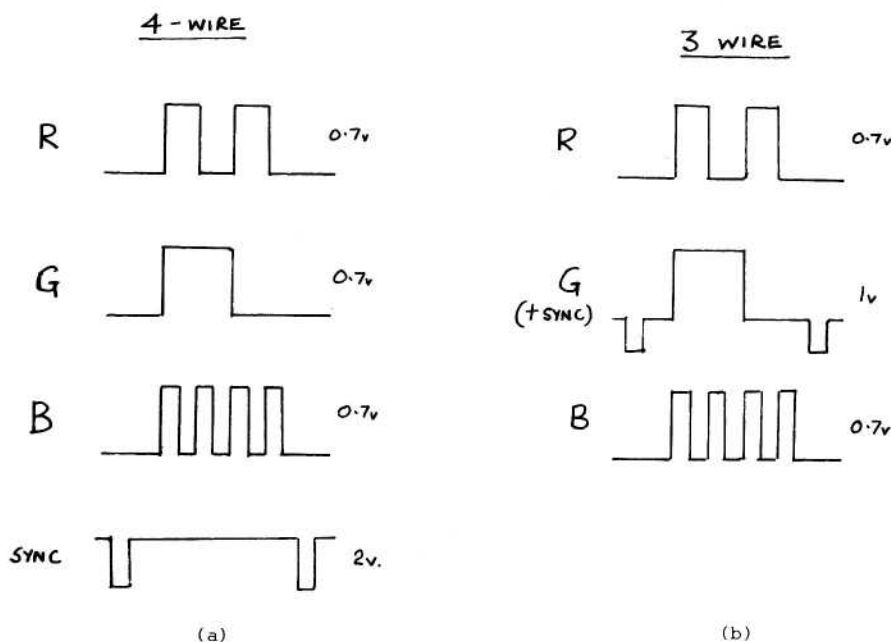

Fig.5 R.G.B. FORMATS
When distributing colour signals in their R.G.B. form the norm is for the signals to be non-composite, with syncs distributed separately giving a 4-wire system. See Fig.5(a). The video signals are therefore 700mV p-p, syncs are normally 2-volts p-p, negative-going, (all into 75-ohms, as above). However, two variations on this standard do exist, and they are:-
(1) In order to have a 3-wire system, 300mV sync can be added to the Green signal, giving R=700mV; G=1 volt; B=700mV. See Fig.5(b).
(2) With the increasing use of micro-computers, RGB + syncs distributed at TTL level is becoming widely used (mainly for connecting computers to RGB monitors). However, this system is not correctly impedance-matched, and should not be fed down cables longer than about 18".